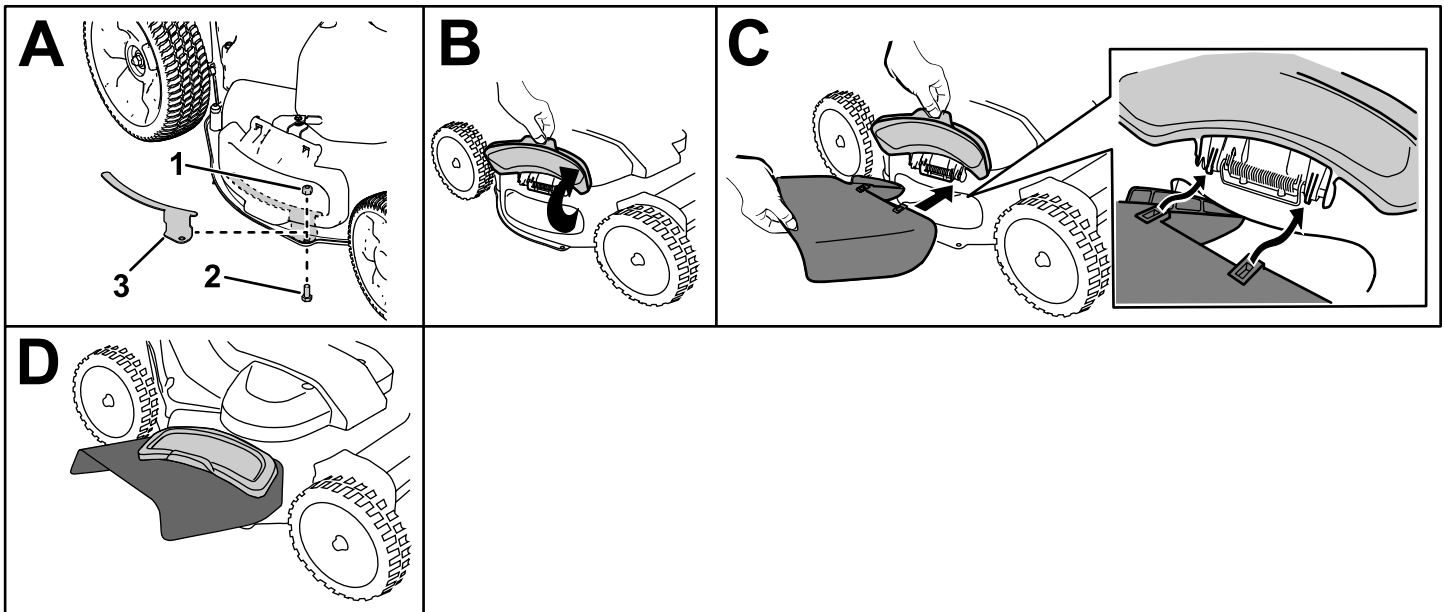

Figure 19
1. Remove the side-discharge deflector bracket and fasteners (A of Figure 19).
2. Lift open the side-discharge deflector (B of Figure 19).
3. Install the side-discharge chute and close the deflector onto the chute (C and D of Figure 19).
Important: Install the deflector bracket when not using the side-discharge chute (A of Figure 19).